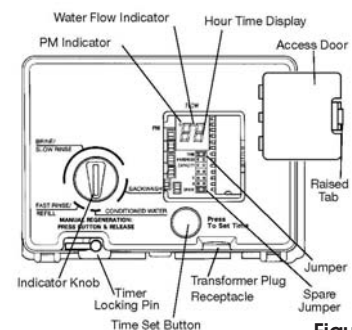
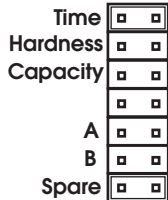

Figure 12
Figure 13
- 1. Remove control valve cover. Note: The following steps will require turning the indicator knob (Figure 12) to various positions. Insert a wide-blade screwdriver into arrow slot in indicator knob and press in firmly. With knob held in, rotate COUNTER CLOCK WISE only until arrow or knob points to desired position. Rotation is made much easier if you grasp the camshaft with your free hand and turn it at the same time. Then permit knob to spring back out.
- 2. Insert screwdriver into slot in indicator knob (Figure 12). Press in and rotate knob COUNTER CLOCK WISE until arrow points directly to the word BACKWASH.
Plug the wall-mount transformer into a functioning electrical outlet that is not controlled by a switch. Plug the transformer into the transformer plug receptacle on the control. Open the access door by pushing the raised tab on the door toward the left while pulling the tab out (Figure 12).
With the jumper on the set of pins next to the word TIME (Figure 13), set the time of day to the closest hour by pressing the black TIME SET button. PM hours are indicated by a light next to the letters PM on the display window. Note: The use of a small needle-nose pliers will aid in moving the jumper. Note: The unit is factory set to regenerate at 2:00 a.m. If you prefer to have the unit regenerate at an earlier or later time, simply set the current time of day accordingly (e.g., to have the unit regenerate at 4:00 a.m.—two hours later—set the clock two hours earlier than the actual time of day). Note: The Timer Locking Pin should always be horizontal (Figure 12) during operation.